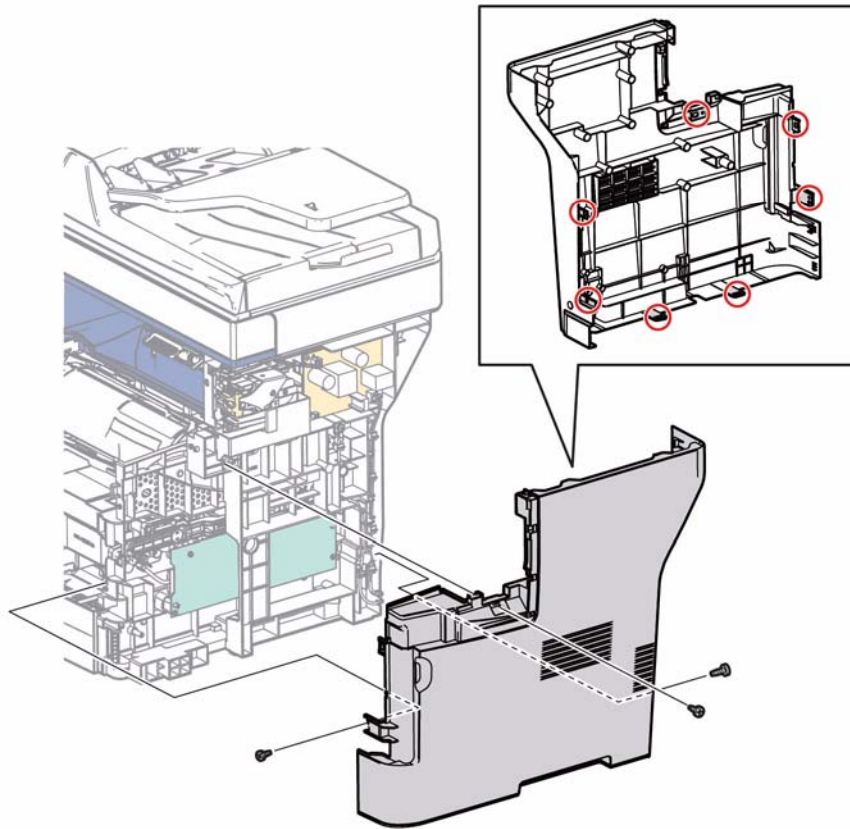

Figure 1 Remove the Right Side Cover
4. Refer to Figure 1 to locate and remove 2 screws (silver, tapping, M3, 8mm), release 4 bosses, and 2 hooks to remove the cover.